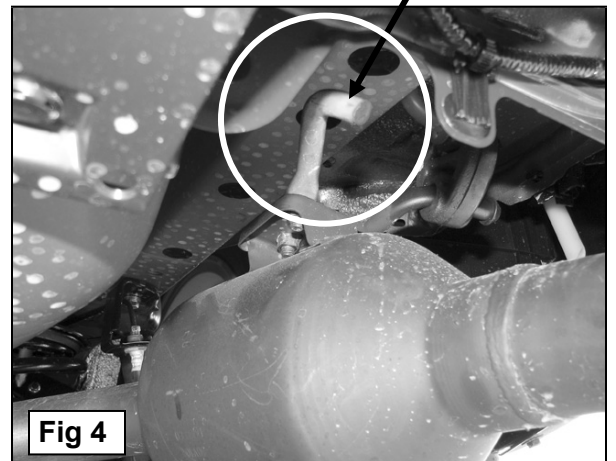

Fig 4
6. Repeat **Steps 3 – 5** for the passenger side Bracket installation. **NOTE:** On some models, there may be an unused exhaust hanger hook attached to the muffler bracket. Remove unused hook if it can come in contact with passenger side Bracket, **(Figure 4)**.